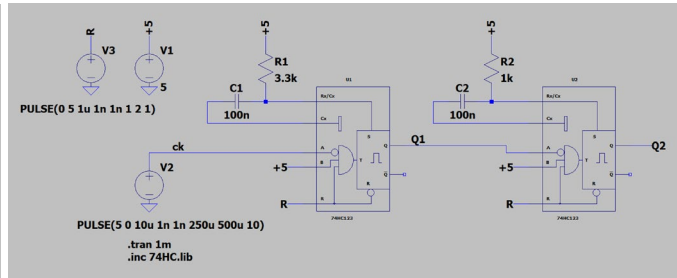

Fig.1b
- Dual monostable as shown in Fig.1b